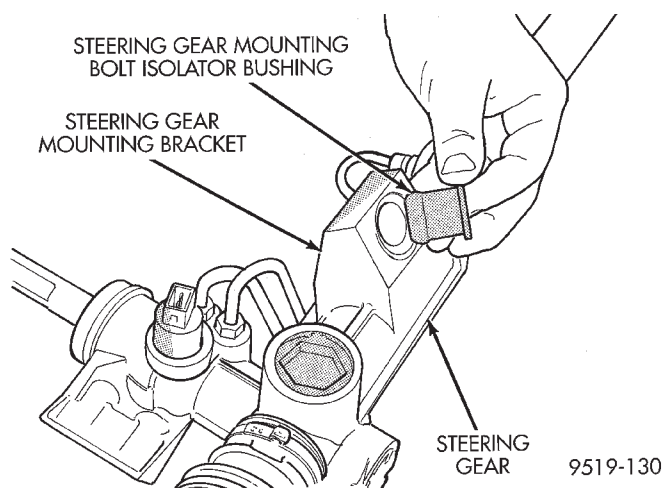

Fig. 25 Installing Mounting Bolt Isolator Bushing
(1) Lubricate replacement mounting bolt isolator bushing using Mopar, Silicone Spray Lube or an equivalent.
(2) Install the mounting bolt isolator bushing into the steering gear mounting bracket from the bottom side of the bracket (Fig. 25).